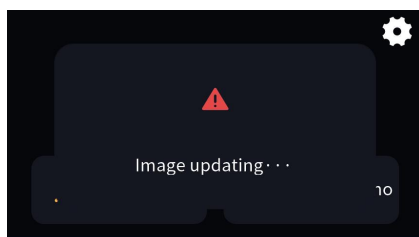
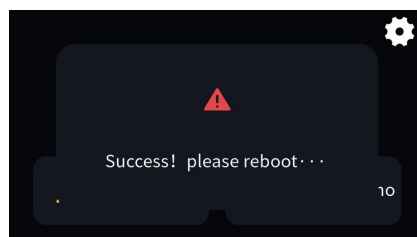
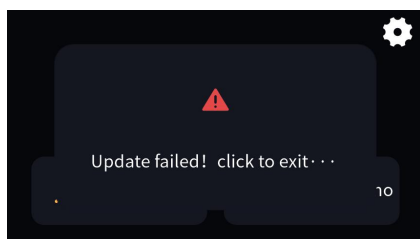

Fig.4.2.2
Fig.4.2.3
Fig.4.2.4
**Note:** ① **Replacing pictures according to the icon number of the new picture corresponding to the replacing ID number:** for example, placing “icon\_1\_a.png”, “icon\_1\_b.png” and “icon\_1\_c.png” in the folder named “Functionicon”, it will replace the original icon with ID NO.1; “icon\_0\_a.png” is not necessary, the default icon stay as default or as last replaced. The rest customized icon ID are the same principle.
② **Update pictures:** when there is a folder named “Functionicon” in the USB storage device, and there is a picture in accordance with valid name and format, then it will update and store (even if the picture is the same as the last saved).
3. Click “Confirm” to update picture; after upgrade, there will pop up a window of the result, if upgrade is successful, then reboot the device manually to apply the new function icons to the system; if upgrade is failed, click any area outside the window to return to the page, as shown in Fig.4.2.2, Fig.4.2.3 and Fig.4.2.4.